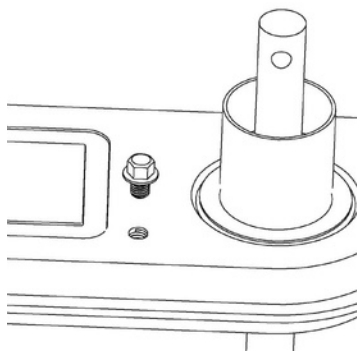

Figure 3
- Put the tiller on a horizontal ground and screw out the oil dipstick (See Fig.3)